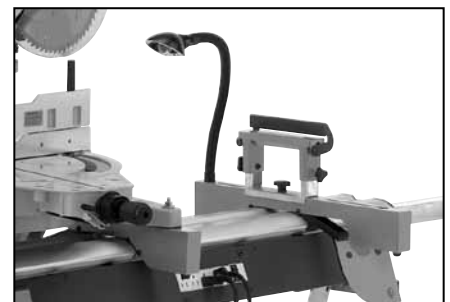

Figure 9
13. The roller support can also be used on the WorkCenter bed for supporting smaller workpieces. Remove the roller support from the “T” support by loosening knob **4** and sliding head of carriage bolt to round opening in slot. The roller support can then be attached to the work light with machine support or additional machine support as shown in Figure 9.